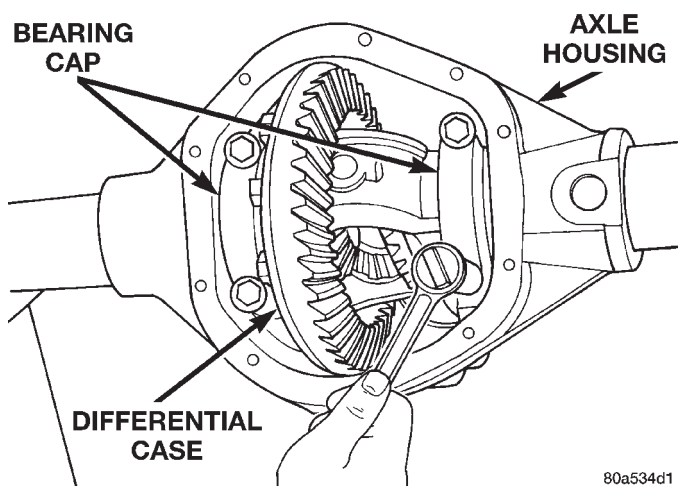

Fig. 68 Tighten Bolts Holding Bearing Caps
- (1) Remove differential side bearings from differential case.
- (2) Remove factory installed shims from differential case.
- (3) Install ring gear on differential case and tighten bolts to specification.
- (4) Install dummy side bearings D-348 on differential case.
- (5) Install differential case in axle housing.
- (6) Install the marked bearing caps in their correct positions. Install and snug the bolts (Fig. 68).